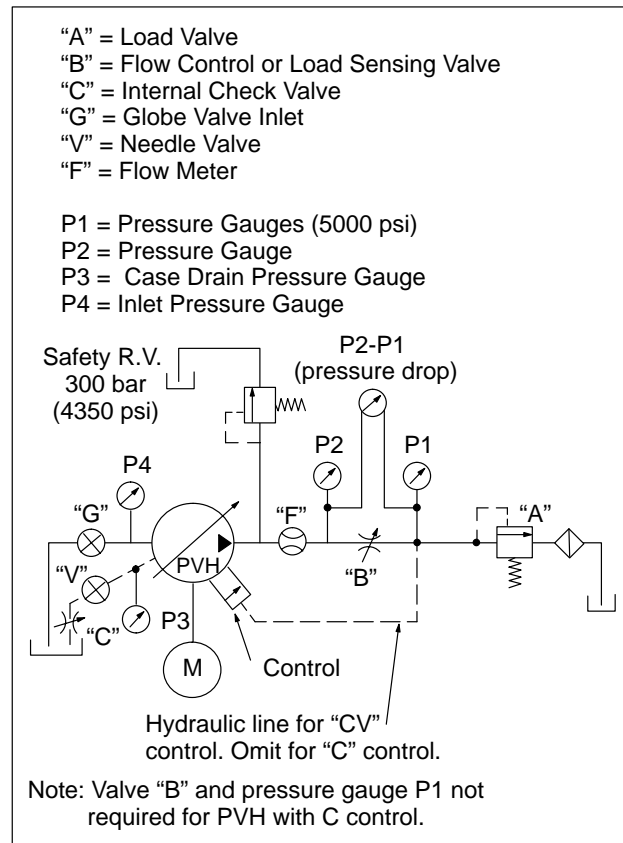

Figure 30: C, CV Control Test Circuit
2. Connect the case line, inlet and outlet line, load sensing line (if required), pressure gauges, and other equipment as described in Figure 30. Make sure all connections are tight.
3. Remove drain plug (1) from valve block (8) and fill the pump with clean hydraulic fluid. Reinstall the plug and torque to value noted in Table 3.
C Control: (refer to Figure 30)
CV Control: (refer to Figure 30)
Refer to Figure 30 during the following procedure.